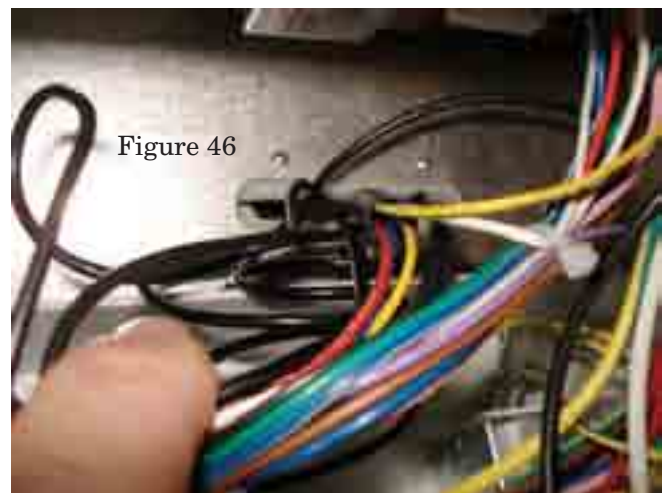

Figure 46
7. Carefully unroll the capillary tube of the new manual reset water temperature limit and feed the sensing bulb through the strain relief clamp. See Figure 46.